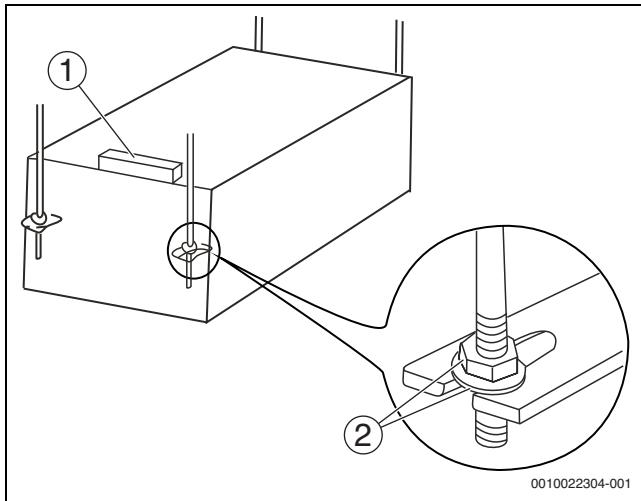

Fig. 14
8. Use a spirit level to verify that the unit body is level (→ figure 14).
9. Make sure the connections are tight (→ figure 14, [2]).